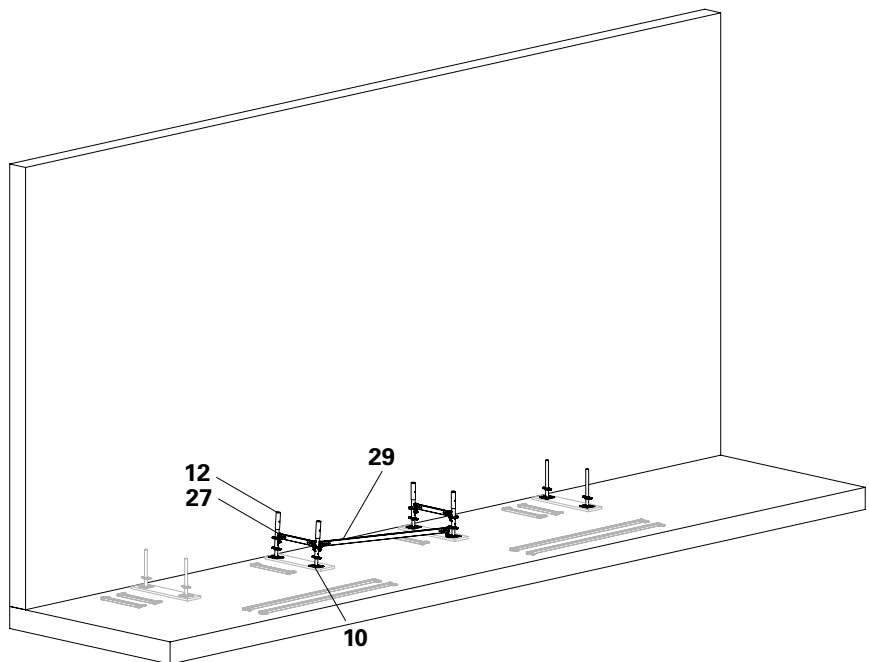

Fig. B2.02
3. Secure with Horizontal Ledger UH-2 (**29**) to prevent it from falling over. (Fig. B2.02)